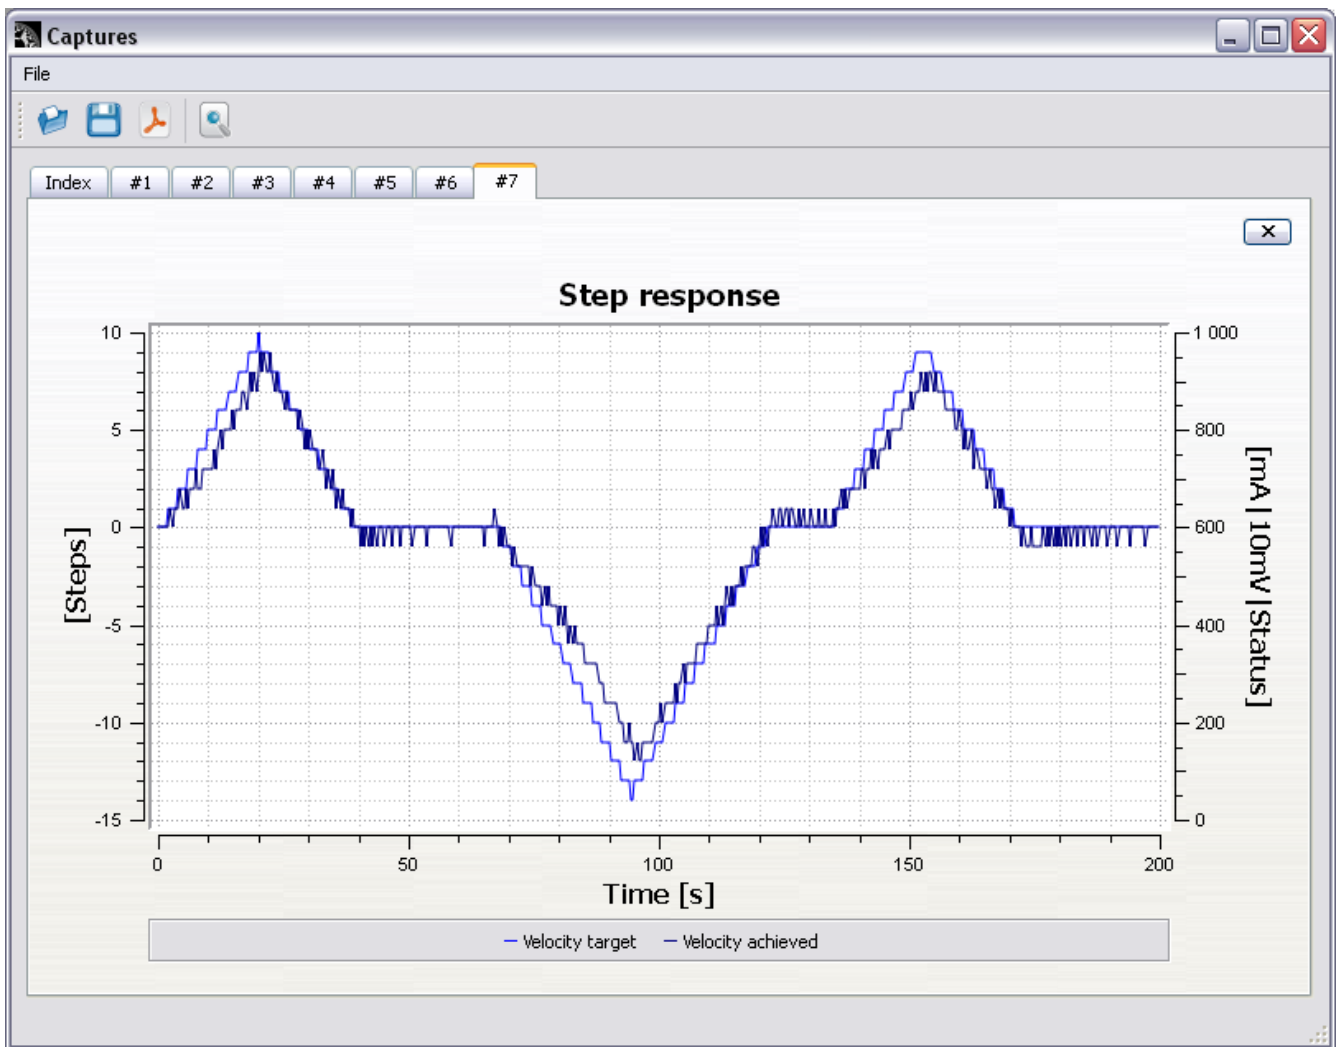

Figure 7: Correct velocity P-gain value
- If you are getting result that resembles Figure 7, (small lag and tolerable noise from motor), you may proceed forward. If you wish to achieve highest possible control stiffness, you can try increasing **Velocity P** gain value further and try choosing another **Torque low pass filter** frequency and returning to step 4.